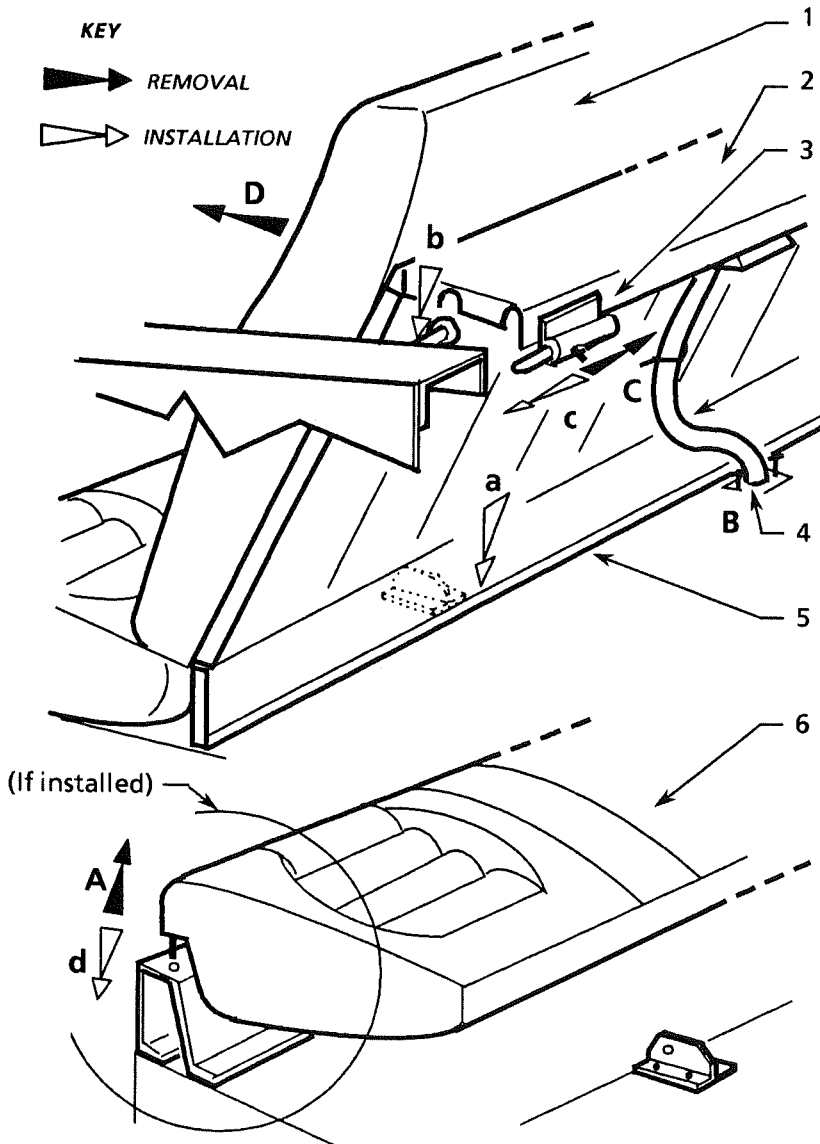

Figure 6.1 - REMOVAL AND INSTALLATION OF REAR SEAT
To remove rear seat : See Figure 6.1 (A, B, C, D)
*To reinstall rear seat - see Figure 6.1 (a, b, c, d) reverse removal instructions.*